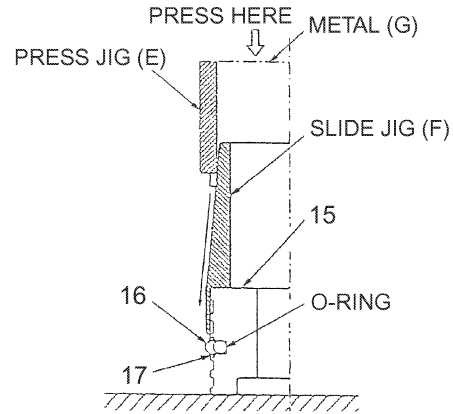

Fig. 32-46 How to fit seal ring (16)
(1) The installation of the seal ring (16) requires a special tool as shown in Fig. 32-46. Seal ring (16) is pushed in with a press with the pushing in tool as shown. (The O-ring of seal ring (16) and back-up ring (17) on one side should be installed beforehand.)